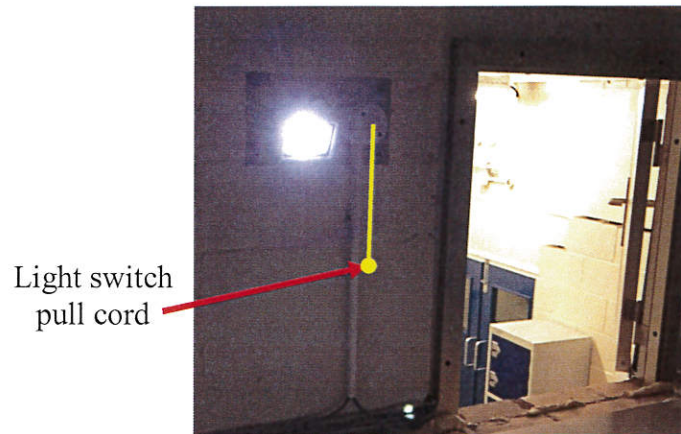

Figure 3: Location of light switch, as seen from inside the plenum, shown with an enhanced pull cord.
- 6.2.2. **Switch Light On.** Use the pull cord shown in Figure 3: to switch on the light inside the plenum.